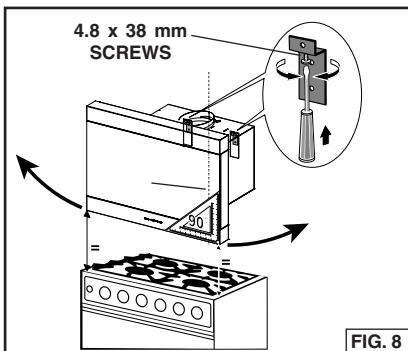

FIG. 8
3. Use adjustment screw on wall brackets to level the hood. Fig. 8.
4. From inside the hood, locate (2) holes for drywall anchors. Mark their location on the wall.